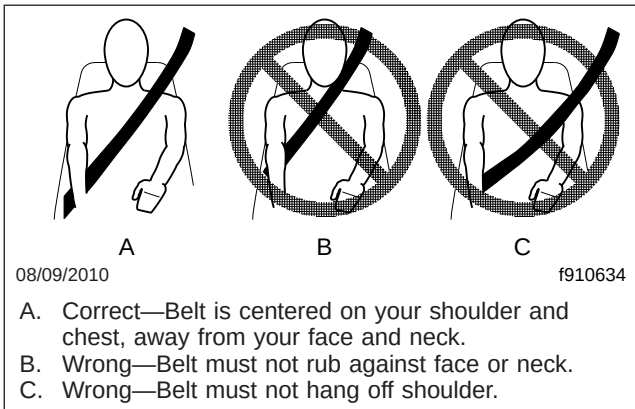

Fig. 5.8, Proper Shoulder Strap Fit
3. Position the shoulder strap diagonally across your chest with the adjustable D-loop bracket (if equipped). The shoulder strap must be centered on your shoulder and chest, away from your face and neck. See Fig. 5.8. If desired, engage the Komfort Latch as follows.
5. Position the shoulder strap diagonally across your chest with the adjustable D-loop bracket (if equipped). The shoulder strap must be centered on your shoulder and chest, away from your face and neck. See Fig. 5.8.